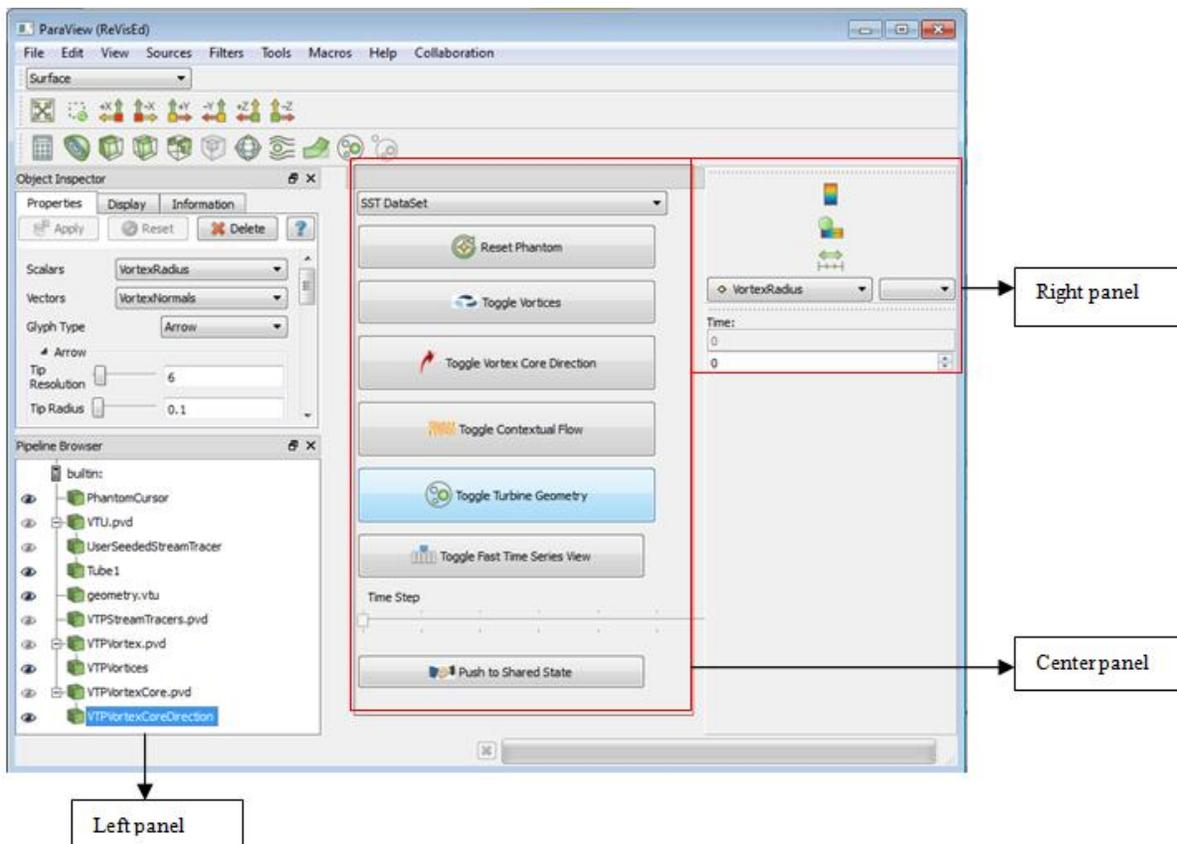

Figure 9: Left, Center and Right panels of the Graphical User Interface window
- In the Right panel of the Collaborative Scientific Visualization workbench, click on the drop-down selection menu and select the desired variable. See Figures 9 and 14 in “3.2.2.5 Special Use Case: Phantom Omni Device for Vortex Visualization”.